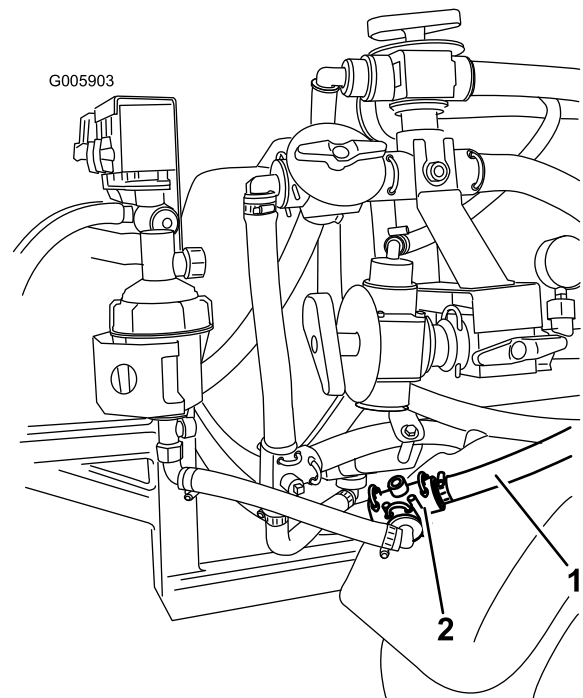

Figure 54
11. Install the end of the hose with the straight fitting to the open connection on the tee fitting facing to the front of the machine (Figure 54). Use the